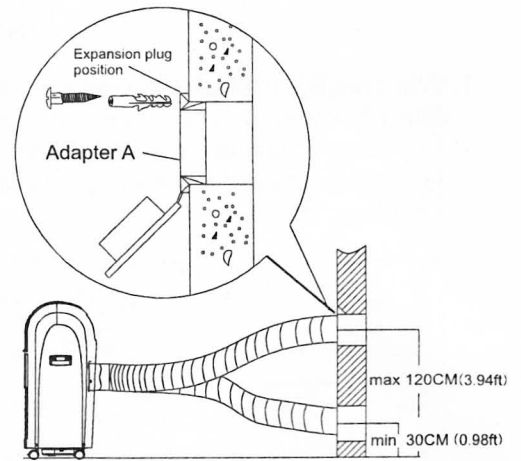

Fig. 8
2. Install the adaptor A onto the wall by using 4 expansion plugs and screws, be sure to fix thoroughly. (See Fig.8)